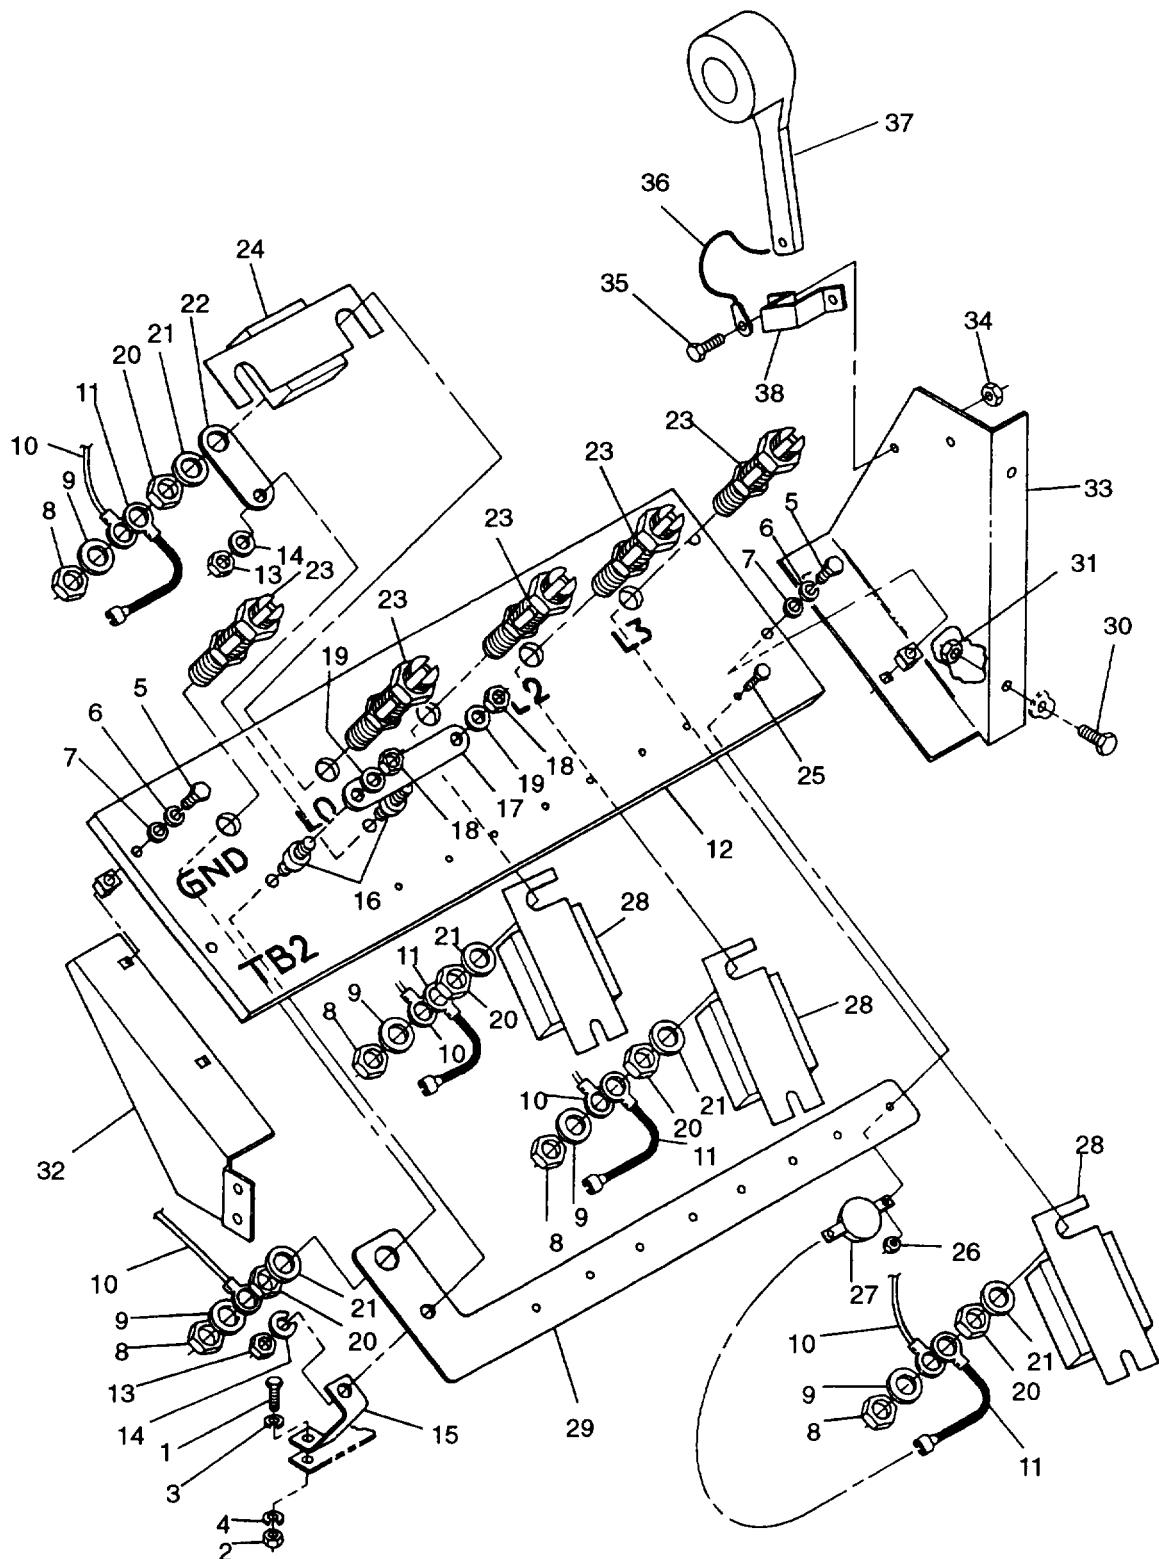

FIGURE 2-30. Load Terminal Board Assembly
- e. Remove bolt (1, FIGURE 2-30), nut (2), flatwasher (3), and lockwasher (4) securing ground strap (15) to skid base.
- f. Remove bolts (5), lockwashers (6), and washers (7) securing terminal board assembly(12) to supports.
- g. Remove nuts (8) and washers (9), tag and disconnect all main power leads (10) and varistor leads (11) from load terminals (23).
- h. Remove terminal board assembly (12) from generator set.
- j. Remove EMI filter (24) positioned between L0 and GND terminals (23).
- k. Remove varistor leads (11) from varistors (27).
- m. Remove EMI filters (28) positioned between load terminals (23) and varistors (27).
- n. Remove nuts (13), washers (14), ground strap (15), studs (1 6), bus bars (17) and (22), and ground plane bar (29) from terminal board (12).
- o. Remove nuts (18) and washers (19) from studs (16).
- a. Install load output terminal board supports (32 and 33), FIGURE 2-30 in generator set with bolts (30) and nuts (31).
- b. Install ground plane bar (29), bus bars (17) and (22), and ground strap (15) on terminal board (12) with studs (16), washers (14) and (19), and nuts (13) and (18).
- c. Position EMI filters (28) between varistors (27) and L1, L2, and L3 load terminals (23) mounting holes.
- e. Position EMI filter (24) between L0 and GND terminals (23) mounting holes.
- g. Connect leads (11) to varistors (27).
- h. Position load output terminal board assembly in generator set, and connect varistor leads (11) and main power leads (10) to load terminals (23) with washers (9) and nuts (8). Remove tags.
- i. Secure terminal board assembly to supports with washers (7), lockwashers (6), and bolts (5).
- j. Apply a thin coat of antiseize compound (Item 6, Appendix C) to skid at ground strap (15) attaching point.
- k. Install bolt (1), flatwasher (3), lockwasher (4), and nut (2) securing ground strap (15) to skid base.
- e. Remove nuts (20, FIGURE 2-30), copper washers (21), and load terminals (23) from terminal board assembly (12).
- a. Install load output terminals (23, FIGURE 2-30) on load output terminal board assembly (12) with copper washers (21) and nuts (20).
- d. Tag and disconnect varistor leads, (11, FIGURE 2-30) from varistors (27).
- e. Remove nuts (26), bolts (25), and varistors (27) from load terminal board assembly (12).
- a. Install varistors (27, FIGURE 2-30), on load output terminal board assembly (12) with bolts (25) and nuts (26).
- b. Connect varistor leads (11) to varistors (27) and remove tags.